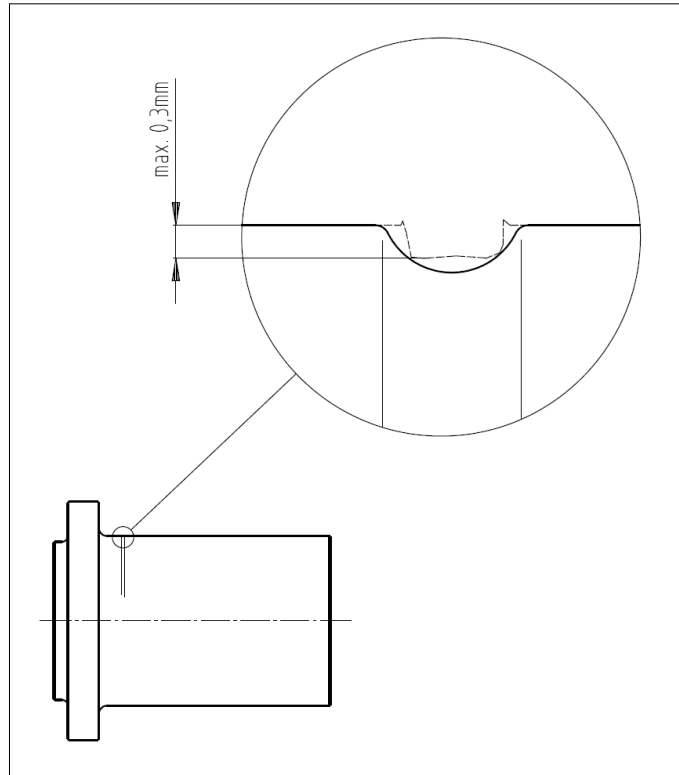

Fig. C-6 Blade ferrule repair
- 1) Repair of grooves caused by bearing rings (Fig. C-6)